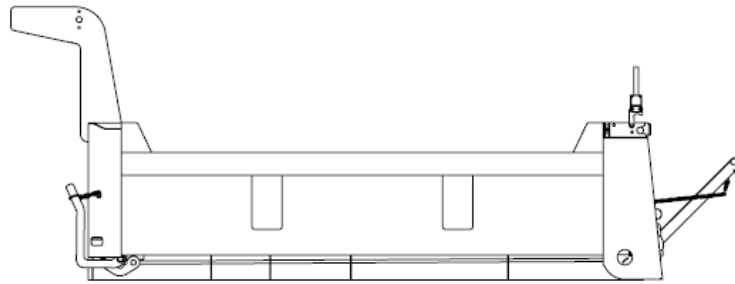

FIGURE 8
4. The amount the tailgate will open top down can be limited by using the tailgate chains. In limiting the amount the tailgate opens top down, a chain on each side of the tailgate is run directly to its respective chain slot located on the rear corner posts as shown in Figure 8.